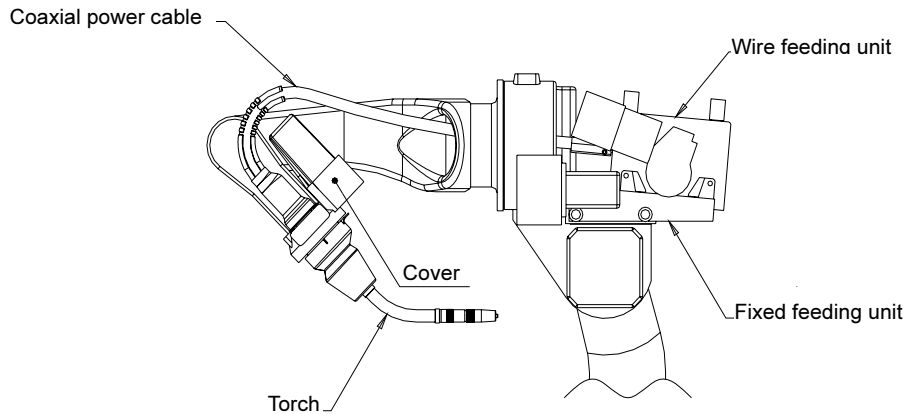

Fig.4.9 Adjustment of the coaxial power cable
- (1) Mount a torch, wire feeding unit (fixing bracket), and coaxial power cable.
- (2) Operate the 5th axis to the maximum (soft limit) toward the manipulator's inner side as shown in Fig.4.9.
- (3) Operate the 6th axis to the maximum (soft limit). (Either in the + or – side.)
- (4) Adjust the fixing bracket in the above posture so that the coaxial power cable does not collide with the cover (see Fig.4.9).